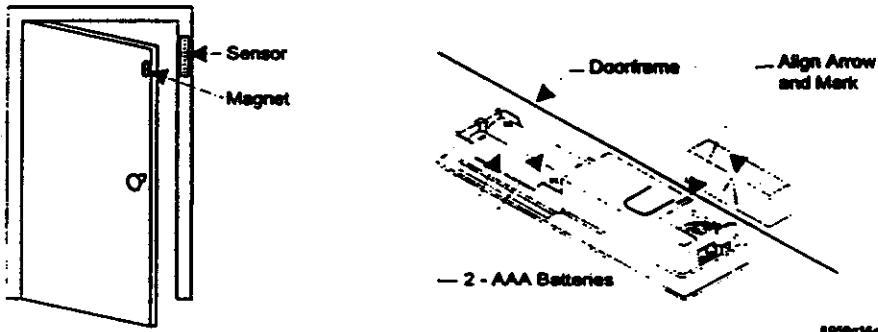

Fig. 25. Door, magnet, and battery positions.
2. Decide where to mount the sensor (Fig. 25).